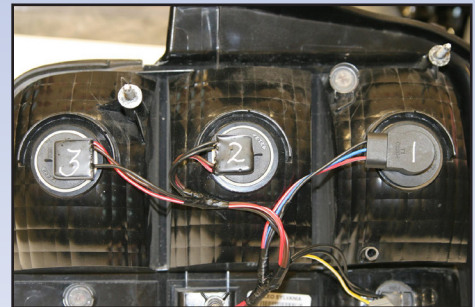

Figure 6
5. Insert new harnesses into tail light assemblies in reverse order of removal of existing harnesses. Sockets are numbered 1, 2 & 3. 1 is the innermost socket, 2 is the middle socket and 3 is the outermost socket (*figure 6*).